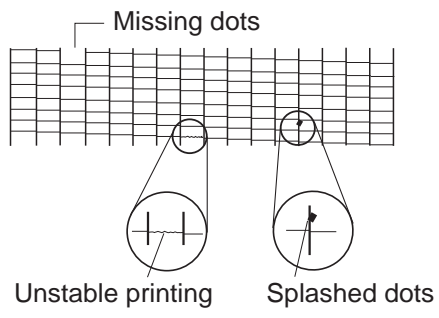

Figure1-2 Defective Pattern (Sample)
| Printing Quality Error | <ul style="list-style-type: none"> • The printer does not at all. • Printing stops midway. • Certain colors are not printed. | <ol style="list-style-type: none"> (1) Remove the printhead and re-install it. (2) Carry out nozzle cleaning on the printhead five times with the cleaning operation, than visually check the test print for non-discharge of ink from nozzle (Fig. 1-2) (3) Remove and reinstall the printhead. (4) Replace the appropriate ink tank. (5) Replace the printhead. (6) Replace the SPCNT board ass'y. (7) Replace the purge unit. | |
| | <p>Blotches appear Blank ink appear</p> | <ol style="list-style-type: none"> (1) Remove and reinstall the printhead. (2) Carry out nozzle cleaning on the printhead five times with the cleaning operation, than visually check the test print for non-discharge of ink from nozzle (Fig. 1-2) (3) Perform print head refreshing, and print out Nozzle check pattern. Visually check the test print for non-discharge of ink from nozzle (Fig. 1-2) (4) Replace the appropriate ink tank. (5) Replace the printhead. (6) Check the connection of the carriage ribbon cable and the SPCNT board. (J HD1, J HD2) (7) Replace the carriage unit. (8) Replace the SPCNT board. (9) Replace the purge unit. | |